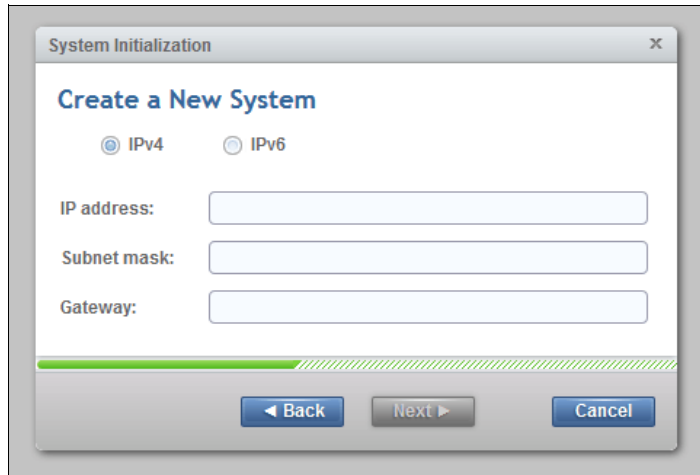

Figure 2-18 System initialization: Create a New System
7. Choose the first option to set up the node as a new system and click **Next** to continue to the window that is shown in Figure 2-18.
1. Start the service configuration wizard by using a web browser on a workstation and point it to the system management IP address that was defined in Figure 2-18 on page 59.